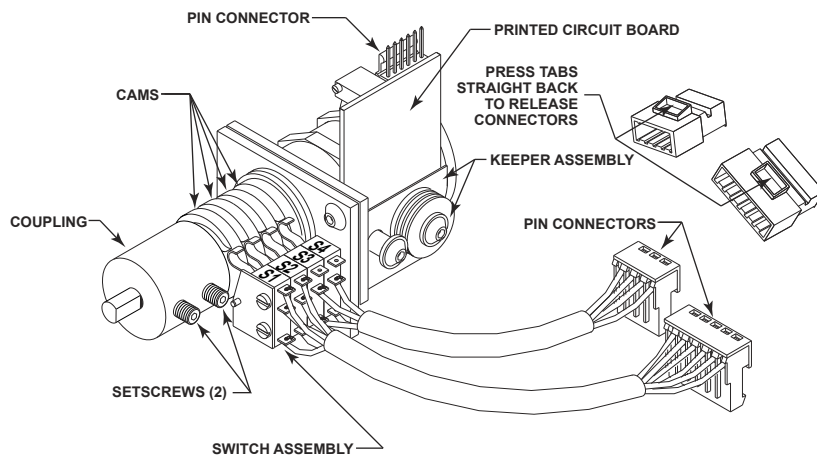

Figure 1
Refer to Figure 1 for component identification.
4. Disconnect the control end assembly electrical circuits by unplugging the three multi-pin connectors from the drive. Two connectors lead from the switch subassembly and the other connector leads from the P.C. board. To disconnect the switch subassembly connectors, use a 3/16" flat-tipped screwdriver to press the release tab straight back (see Fig. 1) and pull the plug out of its socket. The connector leading from the P.C. board slides off with modest force.